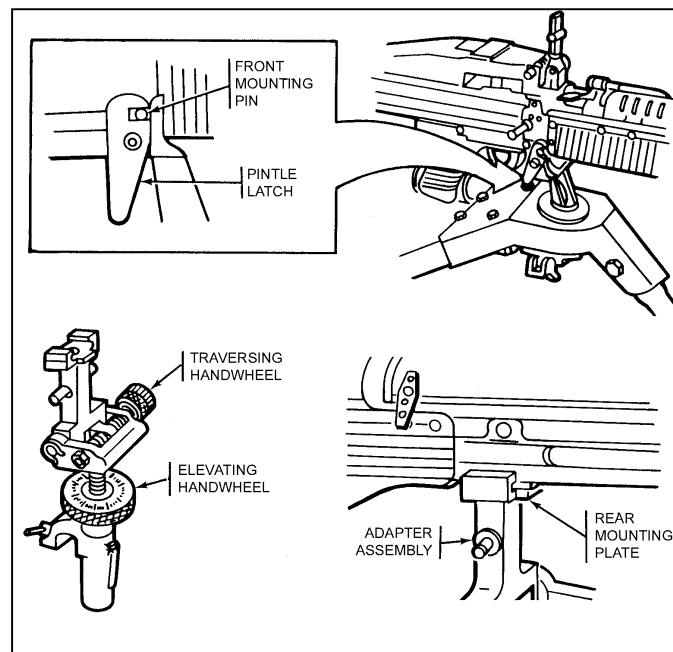

Figure 2-20. Mounting of the M60 on the tripod.
(3) To mount the M60, the gunner places the ends of the M60's front mounting pin on top of the pintle assembly. He presses the bottom of the latch to open the pintle assembly. The ends of the M60 mounting pin should lock in place on the pintle assembly (Figure 2-20).